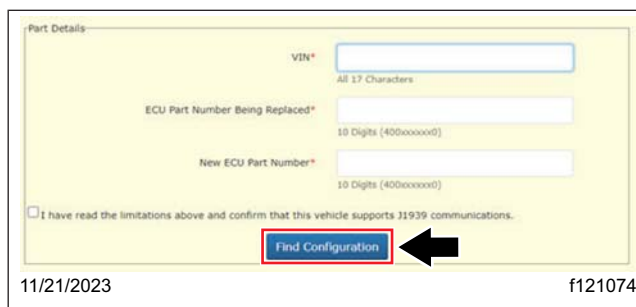

Fig. 4, Finding ABS ECU Configuration
- Enter the VIN and the ABS ECU part number, then select 'Find Configuration.' See Fig. 4.